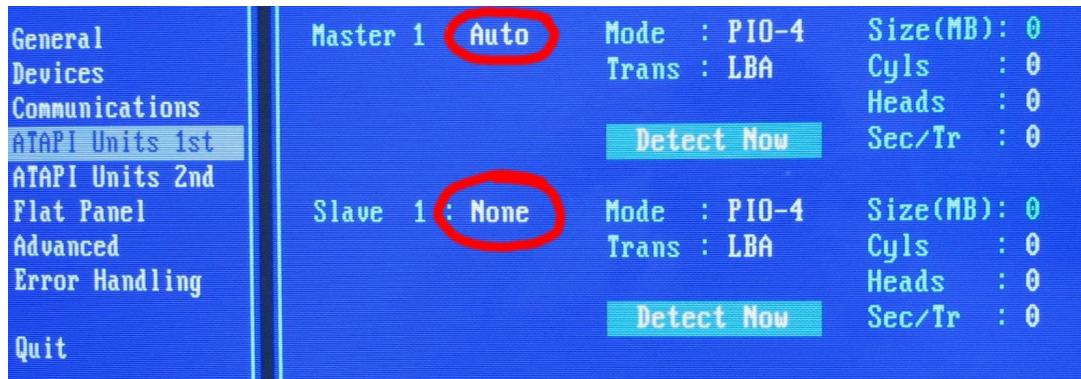

Figure 5.5: Bios setup
9. In the “ATAPI Units 1st” section of the main menu, set Master to “Auto” and Slave to “None” (see **Figure 5.5**);